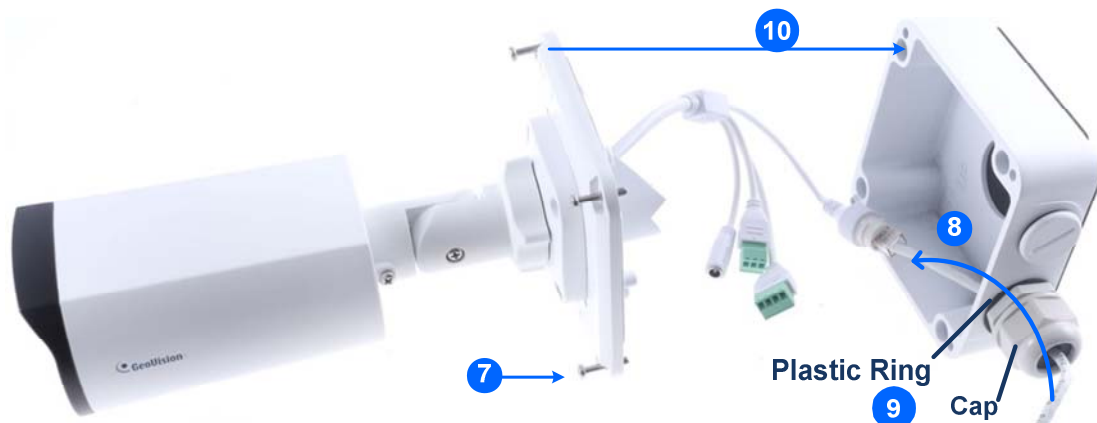

Figure 1-61
- Reattach the box cover to the power box, as shown in No. 7, *Figure 1-61*.
- Thread the Ethernet cable through the PG21 conduit connector and the power box as shown in No 8, *Figure 1-61*. Then connect the cable to the camera. To waterproof the cable, see 1.6 *Waterproofing the Cable*.
- Rotate the plastic ring to secure the conduit connector to the power box. Secure in the cap, as shown in No 9, *Figure 1-61*
- Secure the box cover to the power box, as shown in No 10, *Figure 1-61*.
7. Thread the Ethernet cable through the center hole (proceed to Step 9) or through the PG21 conduit connector and the power box as shown in No 8, *Figure 1-61* (proceed to Step 8).
8. Rotate the plastic ring to secure the conduit connector to the power box. Secure in the cap, as shown in No 9, *Figure 1-61*.